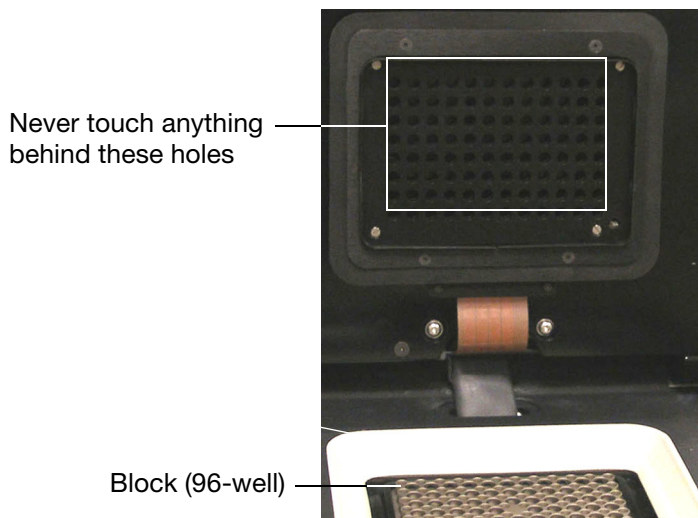

Figure 104. Heating plate holes in the inner lid.
- Never clean or otherwise touch the optical system behind the heater plate holes in the inner lid (Figure 104)
WARNING! Never touch or allow solutions to touch the optical system that is located behind the heated plate holes in the inner lid (Figure 104).